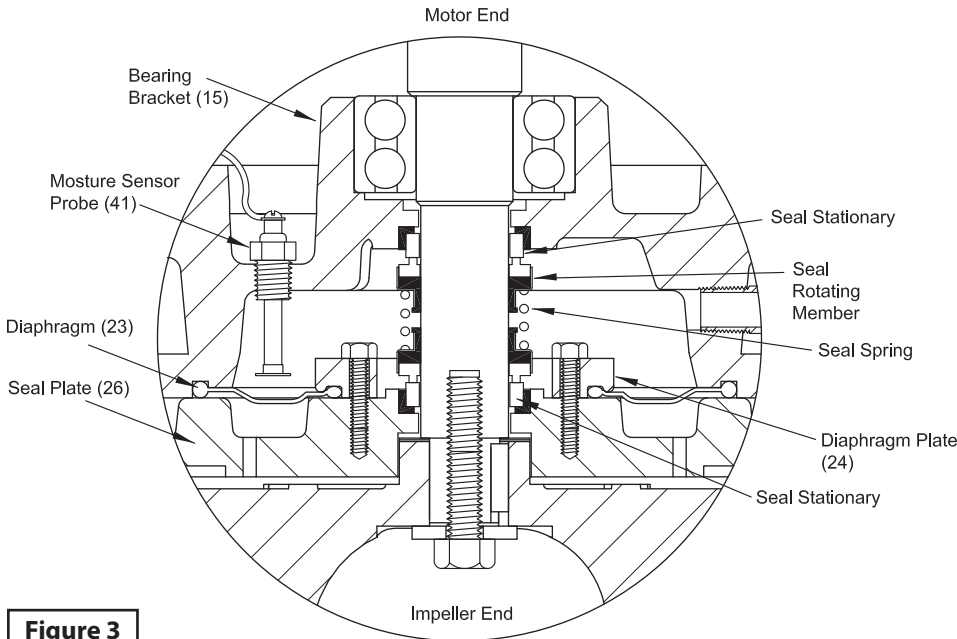

Figure 3
**Seal/Diaphragm** - (See Figure 3) Clean and oil seal cavities in bearing bracket (15) and seal Plate (26). Lightly oil (**Do not use grease**) outer surface of inboard and outboard stationary members of seal (19). Press inboard stationary member firmly into bearing bracket (15) and outboard stationary into seal plate (24), using a seal pusher tool. Nothing but the seal pusher tool is to come in contact with seal face.